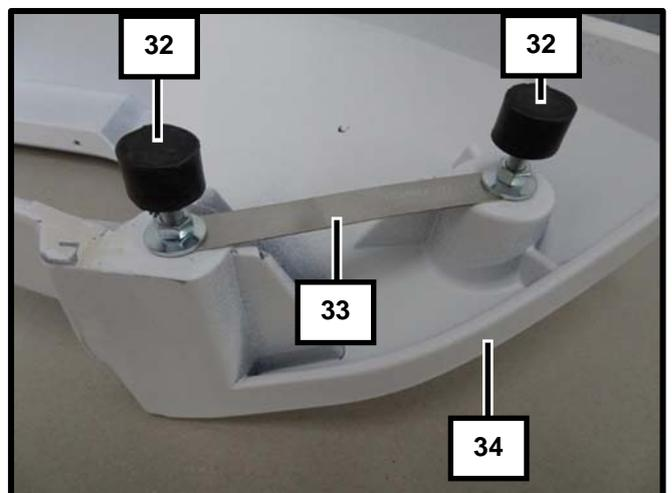

Fig. 47
Adjust the height with the stoppers (32) (Fig. 47 and 48) in such way that the base frame fits perfectly.